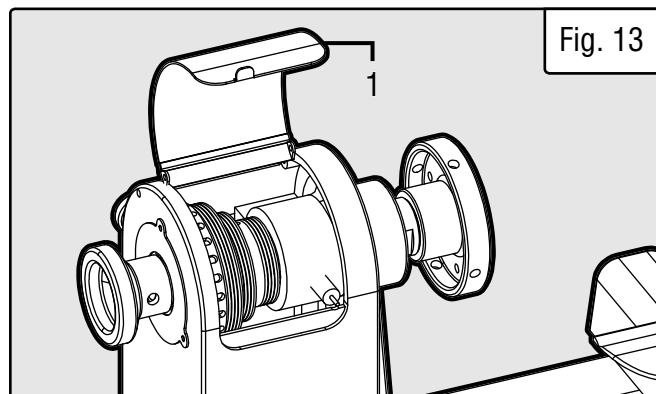

Fig. 13
2. Open the belt drive access panel (Fig. 13 - 1).